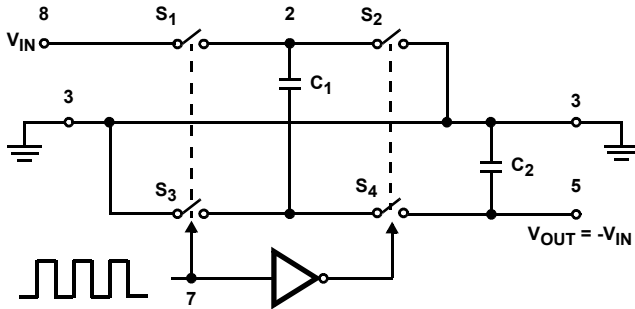
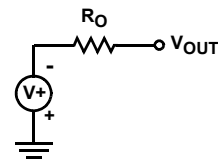

FIGURE 12. IDEALIZED NEGATIVE VOLTAGE CONVERTER
FIGURE 13B. THEVENIN EQUIVALENT
The ICL7660 contains all the necessary circuitry to complete a negative voltage converter, with the exception of two external capacitors which may be inexpensive 10µF polarized electrolytic types. The mode of operation of the device may be best understood by considering Figure 12 on page 7, which shows an idealized negative voltage converter. Capacitor C_1 is charged to a voltage, $V+$, for the half cycle when switches S_1 and S_3 are closed. (**Note:** Switches S_2 and S_4 are open during this half cycle.) During the second half cycle of operation, switches S_2 and S_4 are closed, with S_1 and S_3 open, thereby shifting capacitor C_1 negatively by $V+$ volts. Charge is then transferred from C_1 to C_2 such that the voltage on C_2 is exactly $V+$, assuming ideal switches and no load on C_2 . The ICL7660
In the ICL7660, the four switches of Figure 12 are MOS power switches; S_1 is a P-Channel device and S_2 , S_3 and S_4 are N-Channel devices. The main difficulty with this approach is that in integrating the switches, the substrates of S_3 and S_4 must always remain reverse biased with respect to their sources, but not so much as to degrade their ON resistances. In addition, at circuit start-up, and under output short circuit conditions ($V_{OUT} = V+$), the output voltage must be sensed and the substrate bias adjusted accordingly. Failure to accomplish this would result in high power losses and probable device latchup.
where V_1 and V_2 are the voltages on C_1 during the pump and transfer cycles. If the impedances of C_1 and C_2 are relatively high at the pump frequency (refer to Figure 12) compared to the value of R_L , there will be a substantial difference in the voltages V_1 and V_2 . Therefore it is not only desirable to make C_2 as large as possible to eliminate output voltage ripple, but also to employ a correspondingly large value for C_1 in order to achieve maximum efficiency of operation.
The output characteristics of the circuit in Figure 13A on page 7 can be approximated by an ideal voltage source in series with a resistance as shown in Figure 13B on page 7. The voltage source has a value of -V+. The output impedance (RO) is a function of the ON resistance of the internal MOS switches (shown in Figure 12 on page 7), the switching frequency, the value of C1 and C2, and the ESR (equivalent series resistance) of C1 and C2. A good first order approximation for RO is: